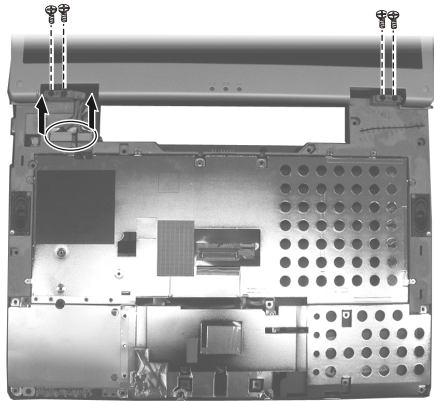

Figure 2-21 Remove four screws and
6. Disconnect two cables and remove four screws. (Figure 2-21)